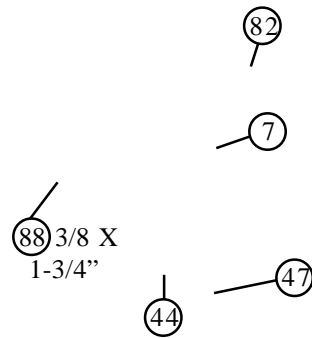

FIGURE 47
- Route the PRESS/LEG CABLE (47) around one 3-1/2" PULLEY (44) and assemble the 3-1/2" PULLEY (44) to the PULLEY PLATES (7) using one 3/8 X 1-3/4" BOLT (88) and one 3/8" LOCK NUT (82). See FIGURE 47.